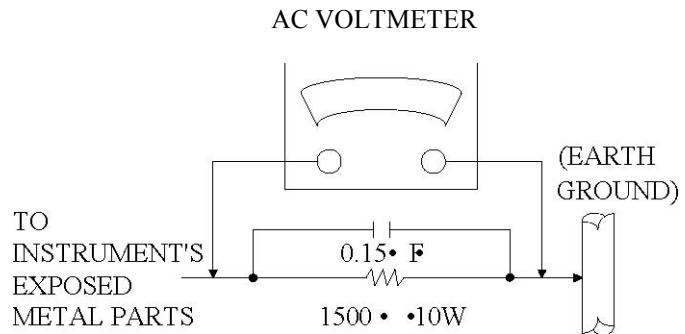

Fig. 1
- 5-2 Connect a 1500 ohm, 10 watt resistor, paralleled by a 0.15uF capacitor between each exposed metallic part and a good earth ground (as shown in Fig.1).